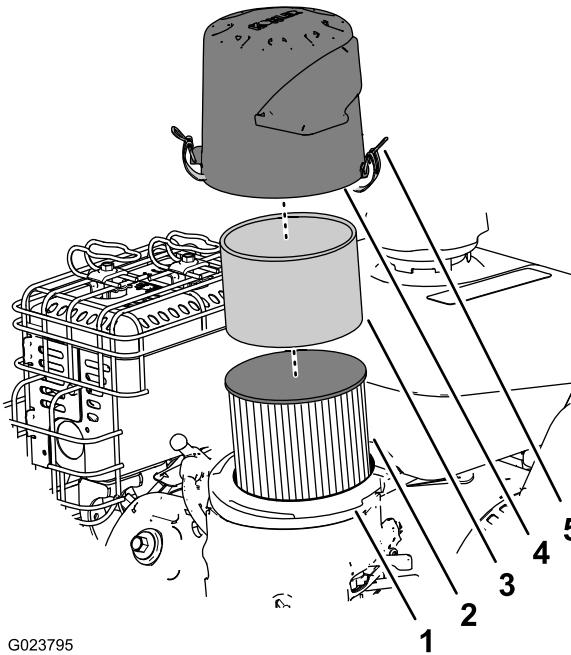

Figure 32
2. Remove the cover and clean it thoroughly (Figure 32).
3. Remove the foam pre-cleaner, wash it with a mild detergent and water, and then blot it dry (Figure 32).
4. Remove and inspect the paper air filter (Figure 32); discard it if it is excessively dirty.
- Install the foam pre-cleaner onto the paper air filter (Figure 32).
- Install the air filter assembly to the air-filter base (Figure 32).